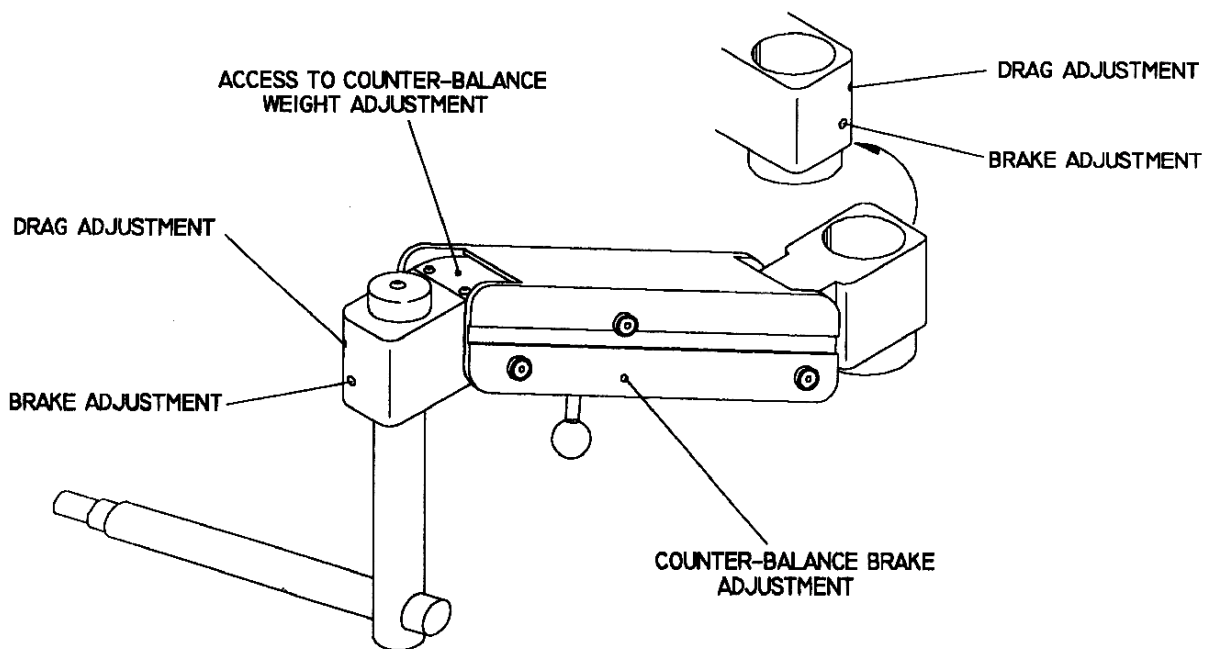

Figure 5: Counterbalanced Arm Adjustments
To adjust the counterbalancing of the instrument arm, (refer to Figure 5) remove the black plastic panel located at the instrument end of the arm by unscrewing the two (2) round-head Hex screws, then lock the instrument arm at its maximum elevated position.
In instances where the handle is not restraining vertical movement, the counterbalance brake will need to be adjusted. The counterbalance brake adjustment is located on the diagonal arm (refer to Figure 5). The arm will